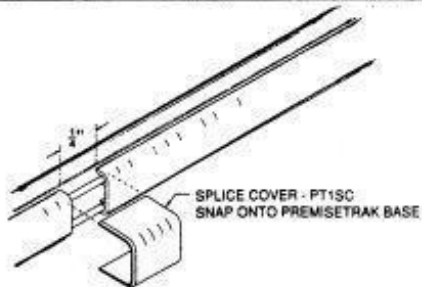

FIG. 9 Splice cover, PT1SC...
9. Snap splice cover (if used) over PREMISETRAK cover gap (fig. 9).